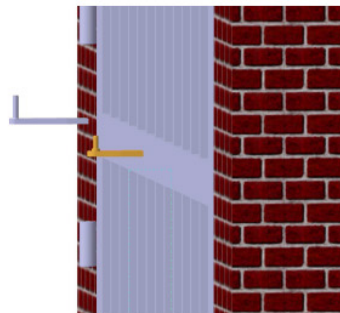

Fig.6
- 4) Mount the motor and unscrew the swivel joint nut three turns to ensure closure. Attach the security ring and the safety bolt supplied. **(Fig.6 Page 5)**.